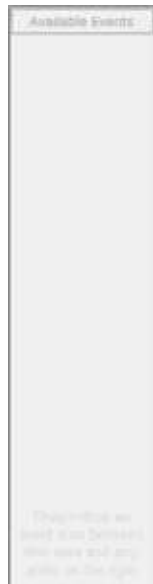

Figure 5.83: Available Events Area.
2. Select an event, such as Errors. The event appears in the Available Events area. See Figure 5.83.